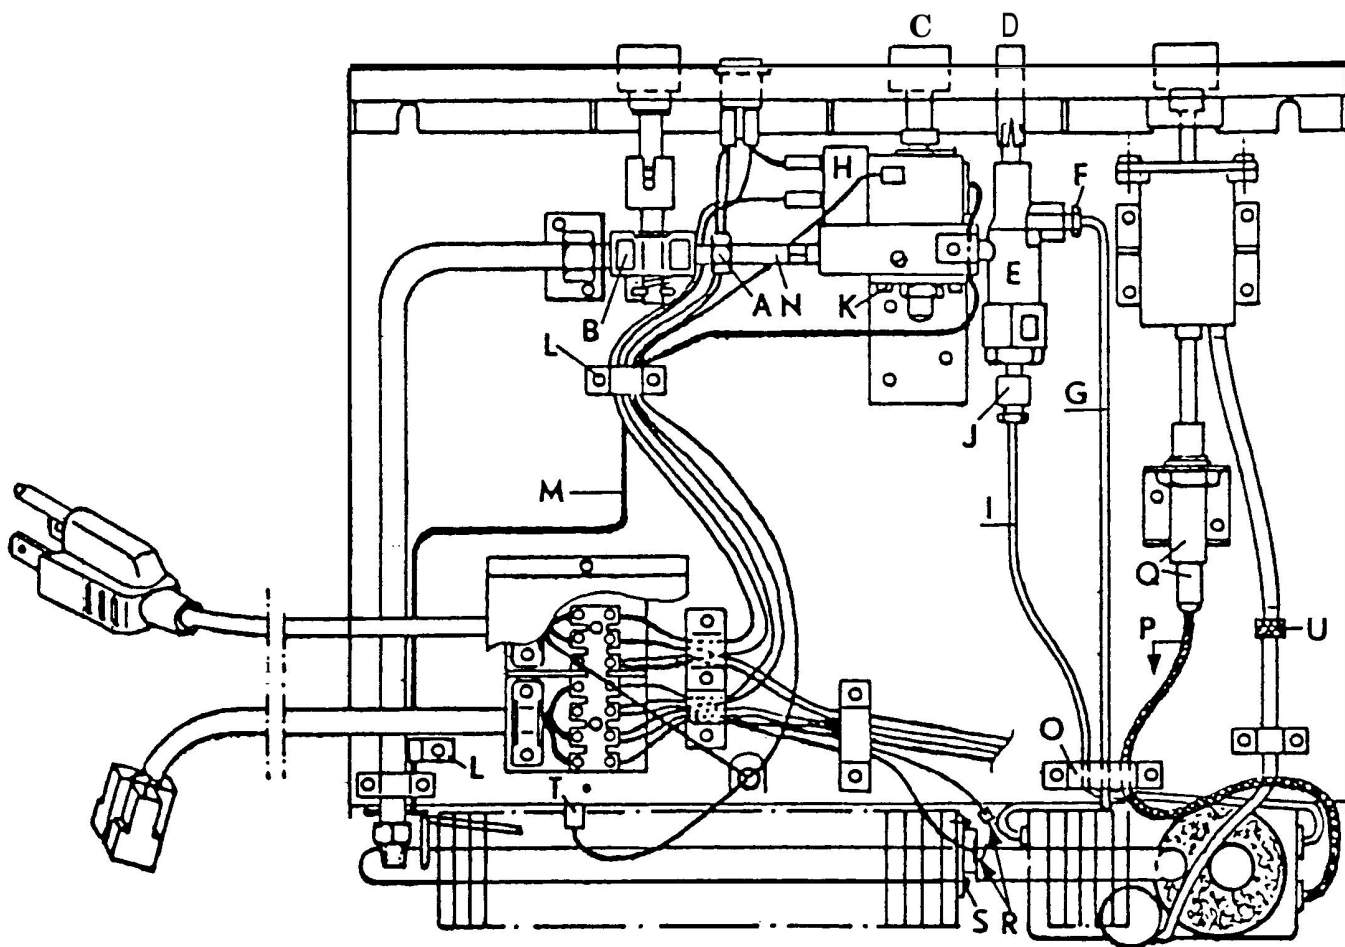
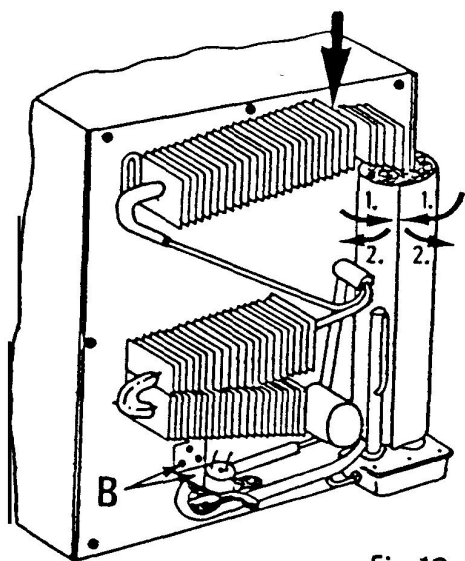

Fig.11
Fig. 13
9. Unscrew two clips (L, Fig.11) from capillary tube (M, Fig.11).
11. Dismantling of thermostat (H, Fig.11) : Unscrew flame failure safety device (E, Fig.11) with thermo-current adapter (J, Fig.11) and the connection (N, Fig.11) from thermostat.
12. Dismantling of the flame failure safety device (E, Fig.11) : Unscrew flame failure safety device from thermostat (H, Fig.11). Then unscrew thermo-current adapter (J, Fig.11) from the flame failure safety device.
5. Replacing the thermo-current adapter (J, Fig. 11).
1. Unscrew thermo-coupling (I, Fig.11) from thermo-current adapter.
2. Unscrew thermo-current adapter from flame failure safety device (E, Fig.11) and replace by new unit.
6. Replacing the thermocouple (I, Fig. 11)
1. Unscrew thermo-coupling from thermo-current adapter (J, Fig. 11).
2. Unscrew clip (O, Fig.11) for gas-pipe (G, Fig.11) and thermocouple.
5. Bend new thermocoupling (I, Fig. 11+12) to shape of old one. For reassembly, proceed in the reverse sequence of dismantling.
1. Remove ignition cable (P, Fig.11) from piezo ignitor (Q, Fig.11).
1. Unscrew thermo-coupling (I, Fig.11) from thermo-current adapter (J, Fig.11).
3. Remove the three connections (A, Fig. 13/R, Fig.11), unscrew support bracket (B, Fig. 13) of the ventilator.
4. Unscrew thermostat (S, Fig. 11) from condenser fins and remove plug-connection of grounding cable (T, Fig. 11) above the condenser fins.
8. Unscrew union nut (U, Fig.11) from air feed-pipe.